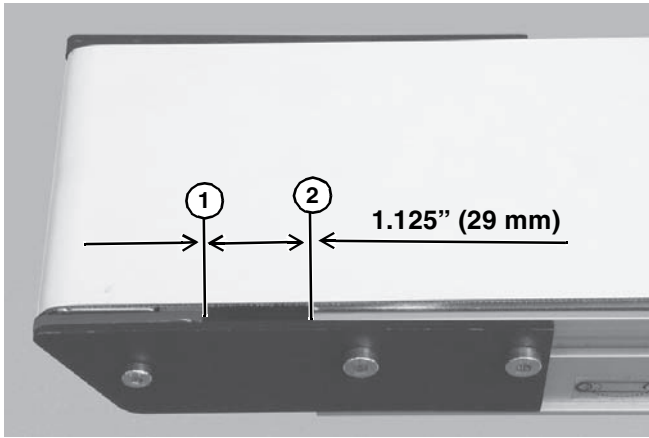

Figure 28
2. Adjust head plate assembly so the edge of the axle support plate (**Figure 28, item 1**) is separated from the end of the conveyor (**Figure 28, item 2**) by 1.125" (29 mm). Replace belt if proper tensioning can not be obtained within a distance of 1.50" (38 mm). See NOTE.